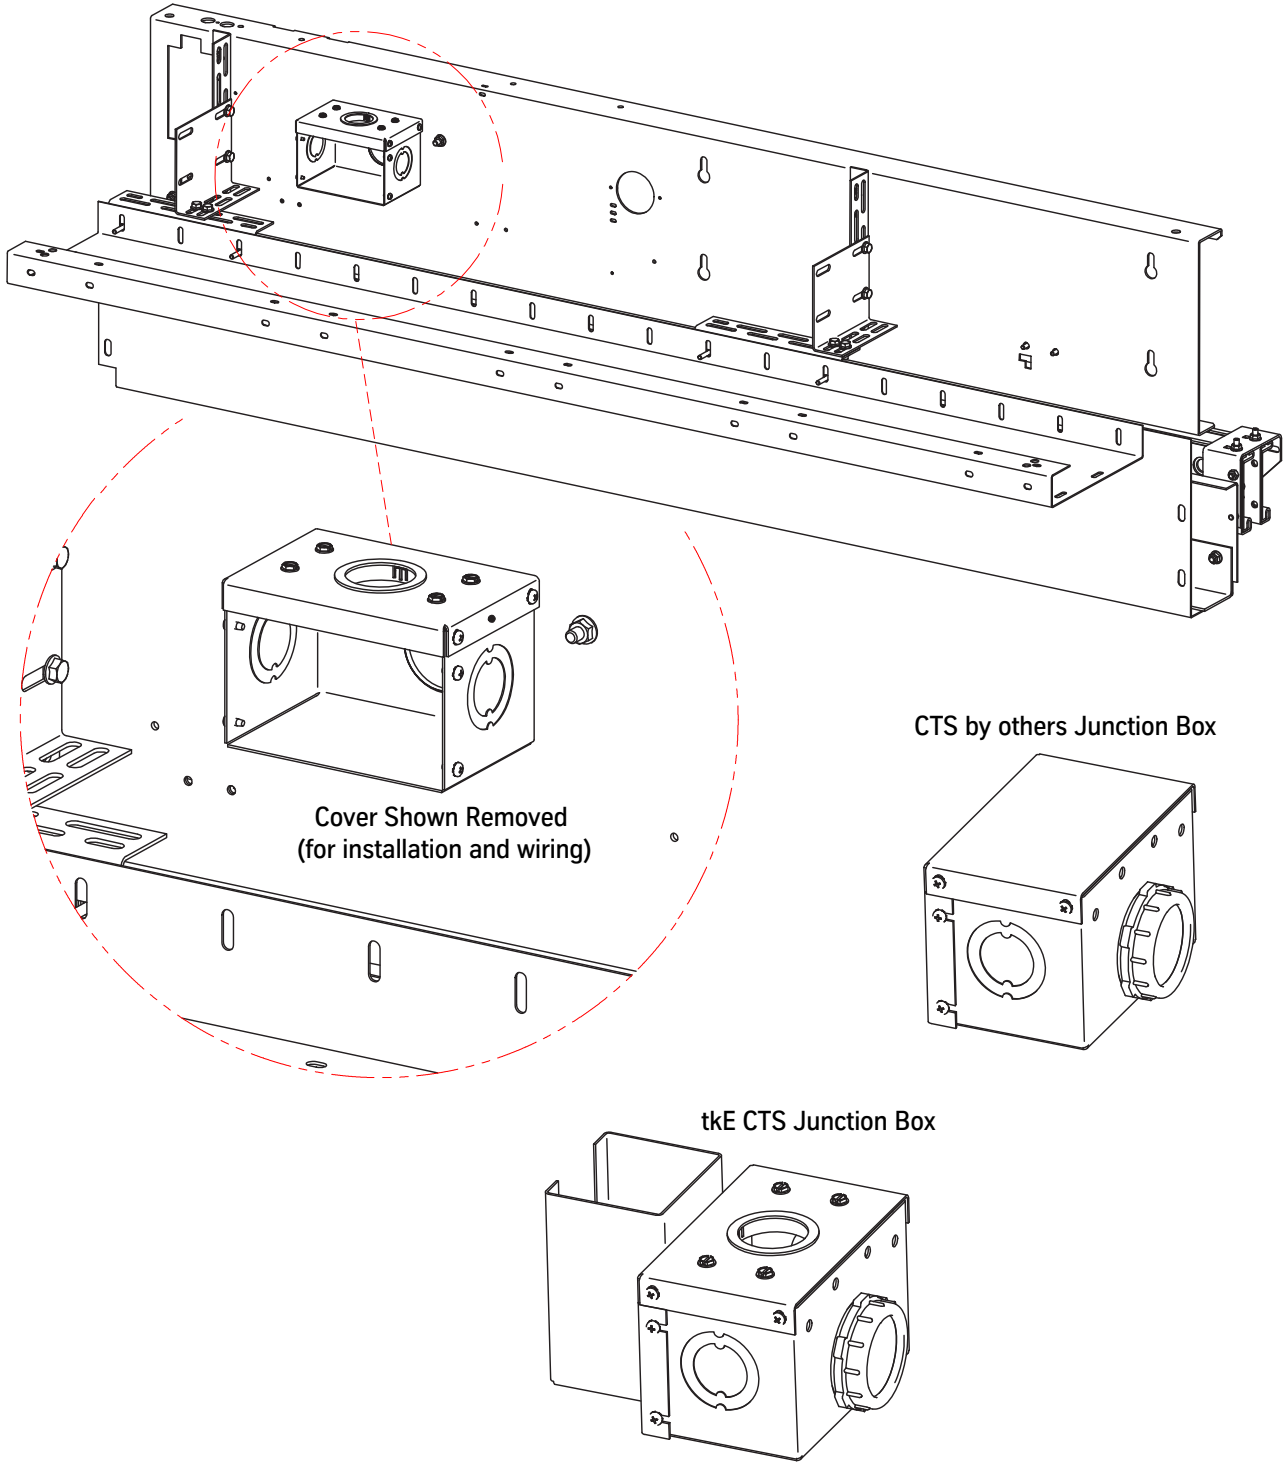

Figure 37 - Junction Box Installation
6. Install the junction box. See Figure 37.